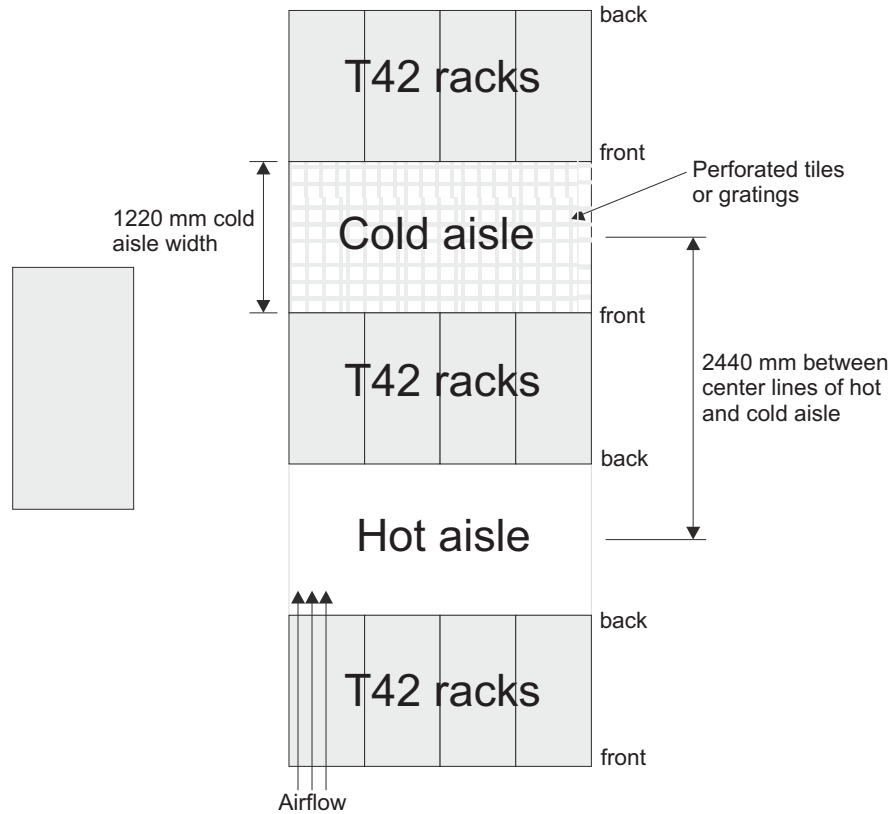

Figure 14. Example of cold aisle/hot aisle rack configuration
- Air enters at the front of the rack and leaves at the back. To prevent the air that is leaving the rack from entering the intake of another piece of equipment, you must position the racks in alternate rows, back-to-back and front-to-front. This arrangement is known as *cold aisle and hot aisle* and is shown in Figure 14 on page 25.